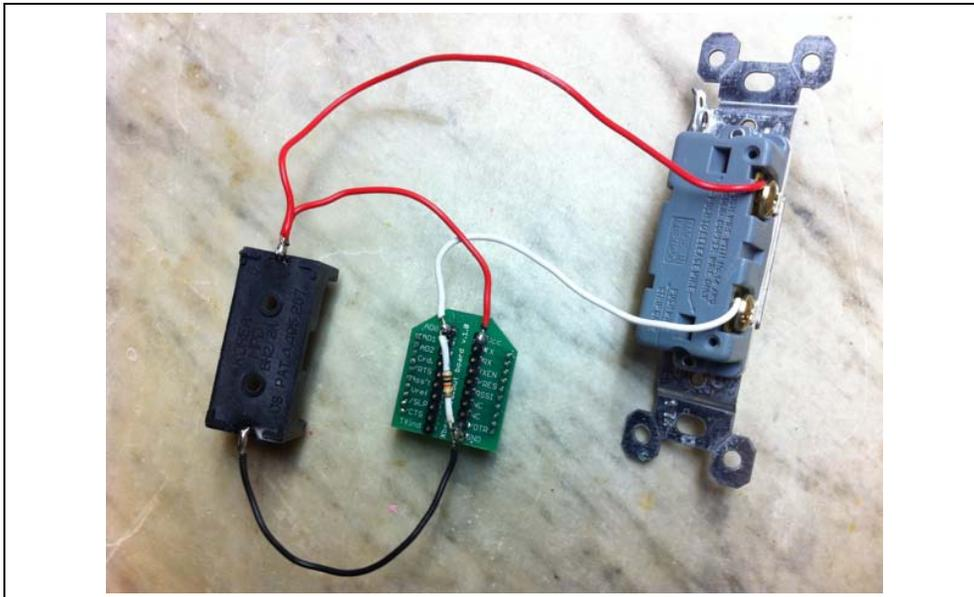

Figure 5. Full circuit for Light Switch XBee
2. Solder a short length of white (or any other color) hookup wire to pin 20 (AD0) of the XBee as shown in Figure 5.
3. Strip the other end of each of these wires and connect to the screw terminals on the light switch as shown in Figure 5. It doesn't matter which wire connects to which of the two terminals on the light switch.